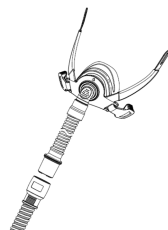

Fig.2
3. Hold both the cuff of the tube and the swivel of the mask, then gently pull apart as shown in Fig.2.